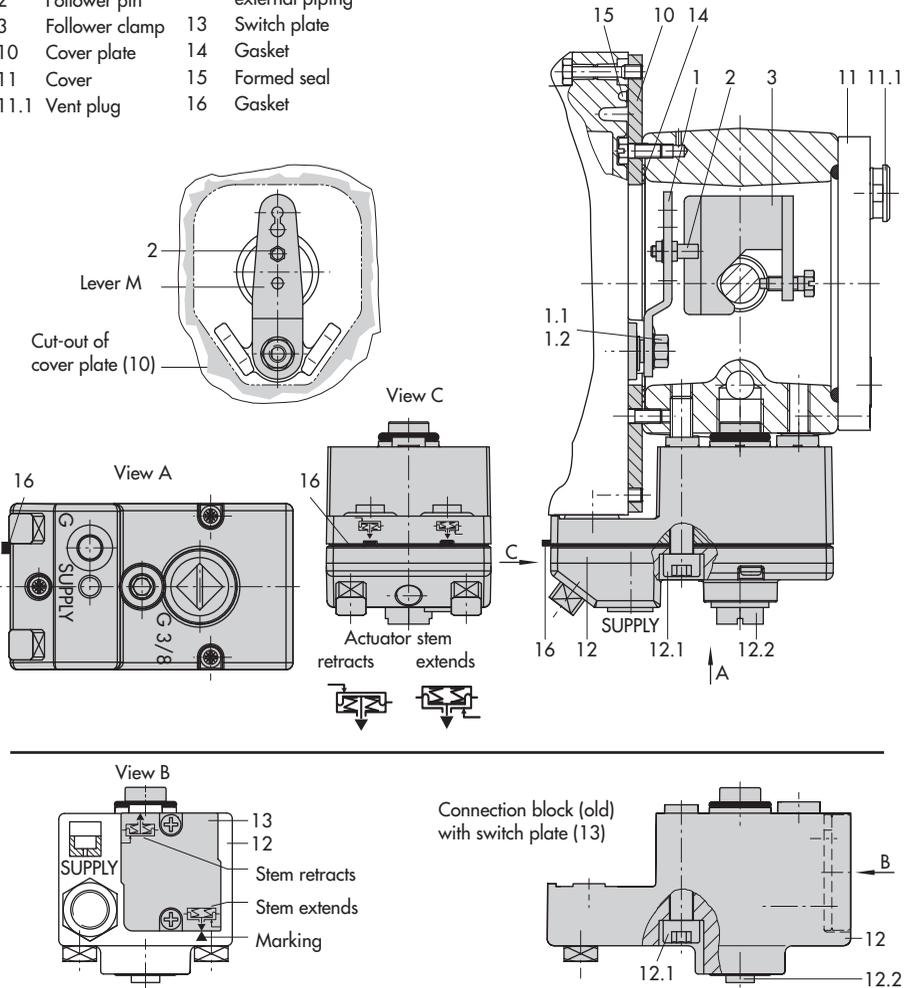

Fig. 5 - Direct attachment – Signal pressure connection for Type 3277 Actuator with 240, 350, 355 and 700 cm2
Mount the positioner on the yoke as shown in Fig. 5. The signal pressure is routed to the actuator over the connection block (12), for actuators with fail-safe action "Actuator stem extends" internally through a bore in the valve yoke and for "Actuator stem retracts" through external piping.
1. Place follower clamp (3) on the actuator stem, align and screw tight so that the mounting screw is located in the groove of the actuator stem.
2. Mount cover plate (10) with narrow side of the cut-out opening (Fig. 5, on the left) pointing towards the signal pressure connection. Make sure that the bonded gasket (14) points towards the actuator yoke.
3. For actuators with 355/700 cm2, remove the follower pin (2) at lever **M** (1) on the back of the positioner from pin position **35**, reposition it in the bore for pin position **50** and screw tight. For actuators 240 and 350 cm2 with 1.5 mm travel, the follower pin (2) remains in pin position **35**.
4. Insert formed seal (15) in the groove of the positioner casing.
6. Make sure that the tip of the gasket (16) projecting from the side of the connection block (12) is positioned above the actuator symbol that corresponds with the actuator with fail-safe action "Actuator stem extends" or "Actuator stem retracts." If necessary, remove the three fixing screws and the cover. Then reposition the gasket (16) turned by 180°. The previous version of the connection block (Fig. 5, bottom) requires the switch plate (13) to be turned such that the corresponding actuator symbol points to the marking.
7. Place the connection block (12) with the associated seal rings against the positioner and the actuator yoke. Screw it tight using the fixing screw (12.1). For actuators with fail-safe action "Actuator stem retracts", additionally remove the stopper (12.2) and fit on the external signal pressure piping.
8. Mount cover (11) on the other side. Make sure that the vent plug points downwards when the control valve is installed to allow any condensed water that collects to drain off.